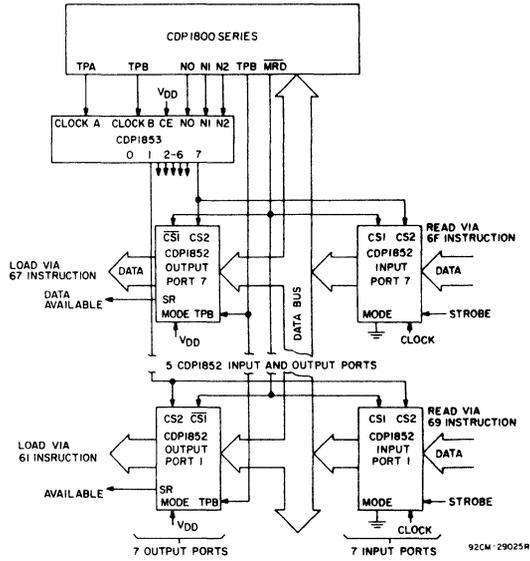
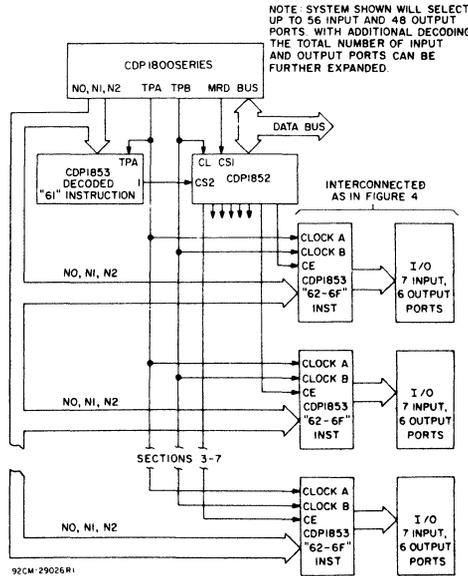

Fig. 5 - N-bit decoder in a one-level I/O system.
Fig. 6 - Two-level I/O using CDP1853 and CDP1852.
When CHIP ENABLE (CE) is high, the selected output will be true (high) from the trailing edge of CLOCK A (high-to-low transition) to the trailing edge of CLOCK B (high-to-low transition). All outputs will be low when the device is not selected (CE = 0) and during conditions of CLOCK A and CLOCK B as shown in Figure 2 when used with the 1800-series microprocessor. The CDP1853/3 inputs N0, N1, N2, CLOCK A, and TPB respectively, when used to decode I/O commands as shown in Figure 5. The CHIP ENABLE (CE) input provides the capability for multiple levels of decoding as shown in Figure 6.